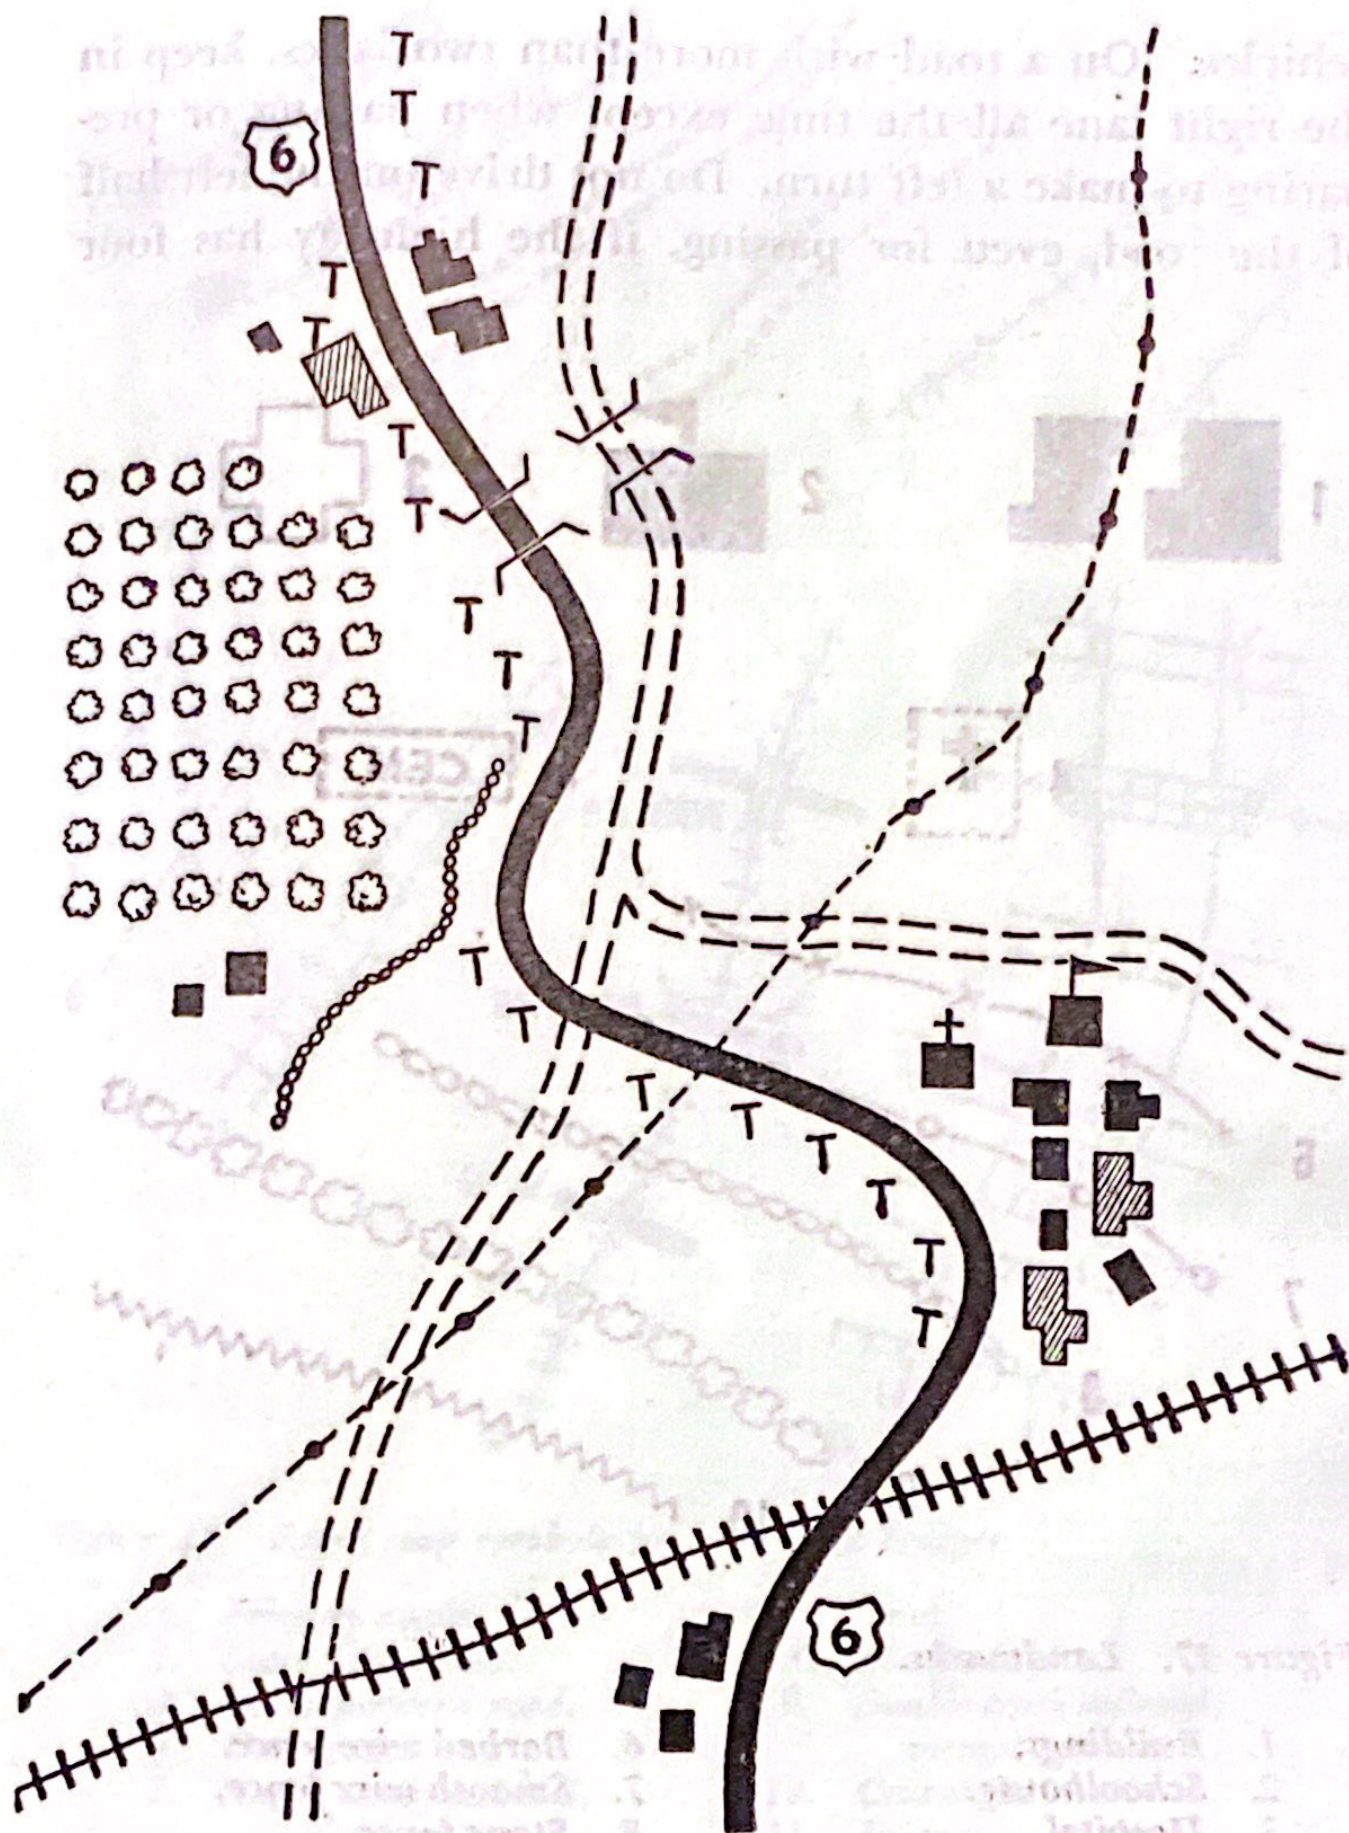

Figure 16. A strip map.
c. Strip maps, which show only the route you are to drive do not have grids, and may not have scales. (See fig. 16.)